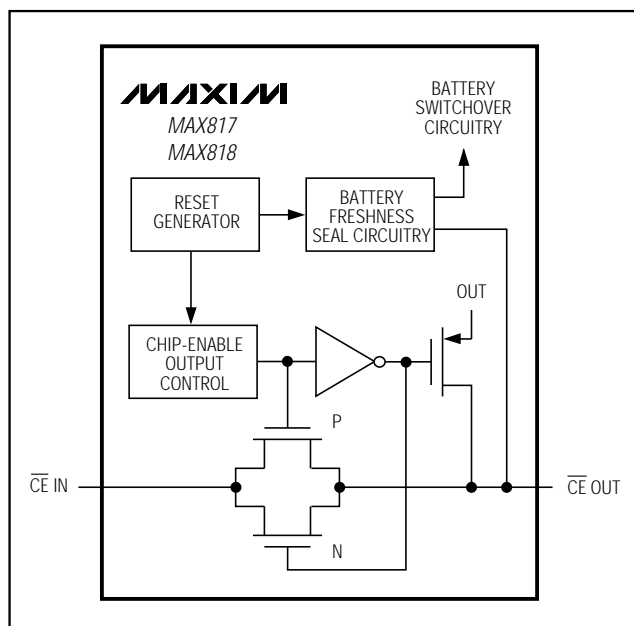

Figure 5. Chip-Enable Transmission Gate
Internal gating of the chip-enable (CE) signal prevents erroneous data from corrupting CMOS RAM in the event of an undervoltage condition. The MAX818 uses a series transmission gate from  $\overline{CE IN}$  to  $\overline{CE OUT}$  (Figure 5). During normal operation (reset not asserted), the CE transmission gate is enabled and passes all CE transitions. When reset is asserted, this path becomes disabled, preventing erroneous data from corrupting the CMOS RAM. The short CE propagation delay from  $\overline{CE IN}$  to  $\overline{CE OUT}$  enables the MAX818 to be used with most  $\mu P$ s. If  $\overline{CE IN}$  is low when reset asserts,  $\overline{CE OUT}$  remains low for typically 15 $\mu s$  to permit the current write cycle to complete.
When the CE transmission gate is enabled, the impedance of  $\overline{\text{CE}}$  OUT is equivalent to a  $40\Omega$  resistor in series with the source driving  $\overline{\text{CE}}$  IN. In the disabled mode, the transmission gate is off and an active pull-up connects  $\overline{\text{CE}}$  OUT to OUT (Figure 5). This pull-up turns off when the transmission gate is enabled.